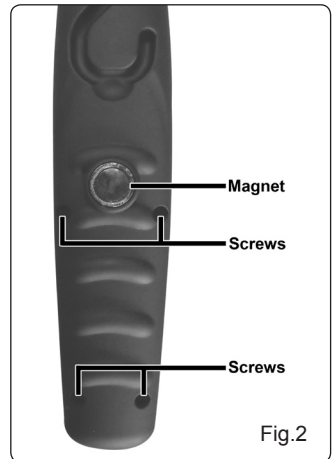

Fig.2
- 4.3 Alternatively use the integral magnet on the rear of the lamp (Fig.2) to attach to any ferrous surface.
Remove the 4 screws on the back of the lamp (Fig.2) and the four screws on the top of the lamp surrounding the 7 LED array. Remove the back casing, and disconnect the wiring to the charger port and from the battery to the circuit board. **Dispose of batteries according to local authority guidelines.**